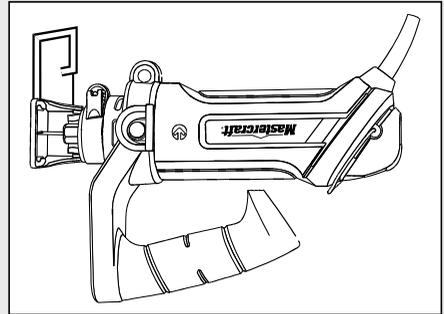

Fig. 10
- Hold the tool firmly with both hands and turn it ON. Plunge the bit through the drywall at the mark indicating the centre of the box. See Fig. 10 for cutting pattern.